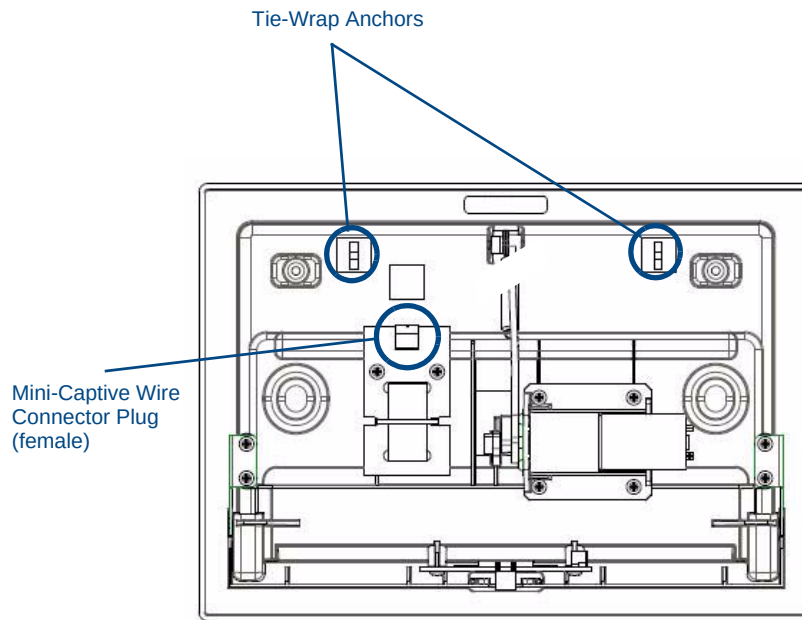

FIG. 8 MVP- WCS-52 - Rear
7. Secure the power cable to the device, using either of the two tie-wrap anchors included in the Installation Kit at the top rear of the device (FIG. 8). Point the head of each tie wrap toward the center of the device.